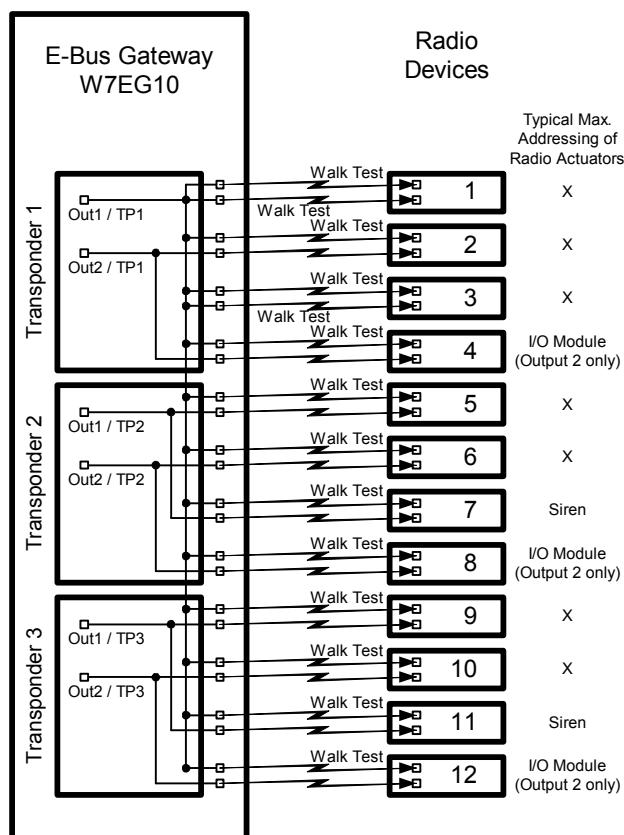

Figure 9: W7EG20 output mapping
## 4. Output mapping (fig. 9)
The output 2 of the other radio devices can be activated by the outputs of the replaced transponders according to the output mapping (see fig. 9).
W7EG20 output 1 of the first replaced transponder must be programmed to "walk test" in the control panel. For the same purpose output 1 of the first replaced transponder is mapped in the W7EG20 to logical output 1 of each radio device (see fig. 9). Because of the output mapping of the W7EG20 output 1 of the first replaced transponder is also mapped to logical output 2 of the radio devices number 1 and 3.
The SiRoute™ radio devices (radio detectors/actuators) use their logical output 2 for an output function. The logical output 2 of the SiRoute™ radio devices can be activated by the outputs of the replaced transponders according to the output mapping (see fig. 9).
Because of the output mapping (see fig. 9) some restrictions have to be considered when enrolling (addressing) radio actuators:
- Each output of a replaced transponder activates in parallel the logical output 2 of two radio devices (address 2 and 4, 5 and 7, 6 and 8, 9 and 11, 10 and 12). Therefore only one of these two addresses can be a radio actuator (siren or input/output module). Otherwise both radio actuators would be activated together. Because of these restrictions only 5 radio actuators can be used per W7EG20. Figure 9 shows a typical addressing of radio actuators with 3 input/output modules and 2 sirens. The radio devices marked with X cannot be radio actuators. Note that this is only an example out of many possible combinations.